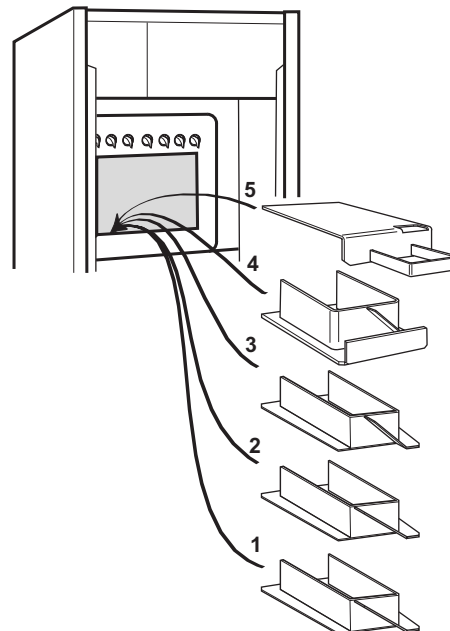

Fig. 23 - Baffles
- 2 Remove the baffles as shown in Fig. 23.
- 6 Replace the baffles, ensuring they are correctly fitted. See Fig. 23.